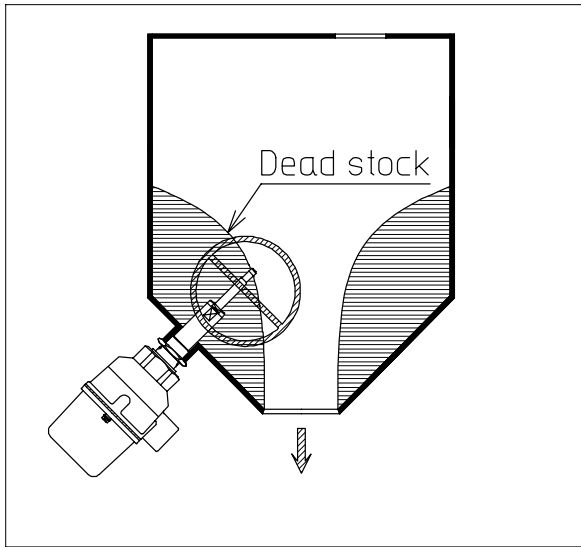

Fig. 4-4
- (5) The sensor will detect the dead stock despite there aren't any measuring materials. [See Fig. 4-4]